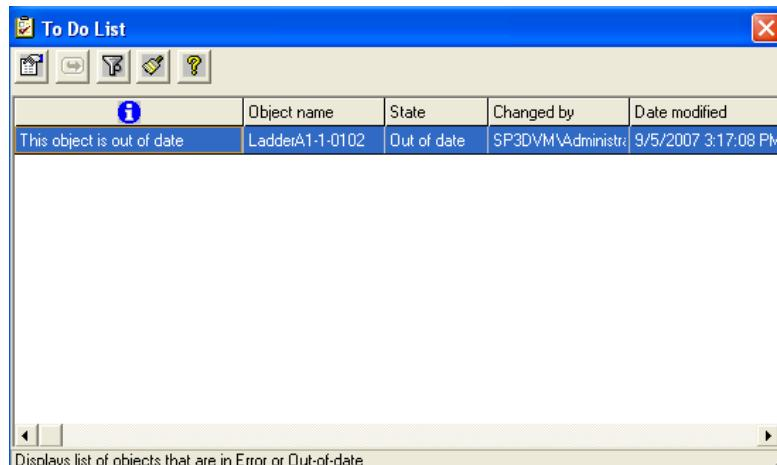

Figure 1: Out of Date Object in the To Do List
- **Out of Date:** An object is Out of Date when it has not yet recalculated after one of its related input objects has been modified or deleted. Figure 1 shows the **LadderA1-1-0101** is **Out of Date**.